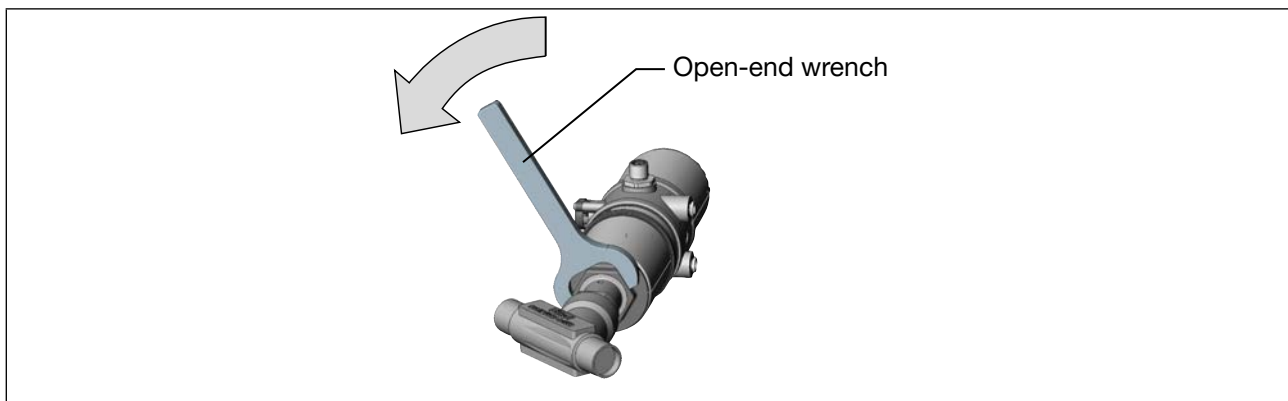

Figure 17: Rotating with open-end wrench
- Rotate the actuator module counter-clockwise only (see "Figure 17").